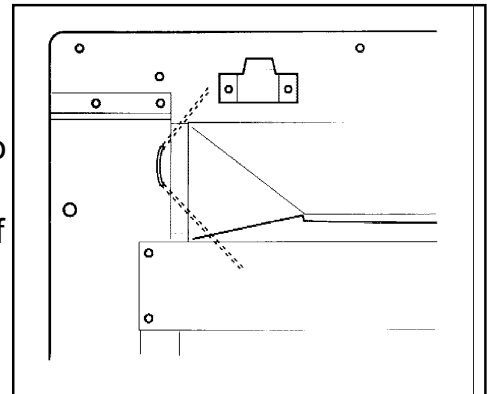

Figure 19. Upper cable retention
**5.** The convection box has two holes at each side of the convected air opening. Insert one end of each cable (one cable each side) from the back through the lower of the two holes and return the end through the upper of the holes (See figure 19). Give the cables a pull so that they grip against the convection box flanges.